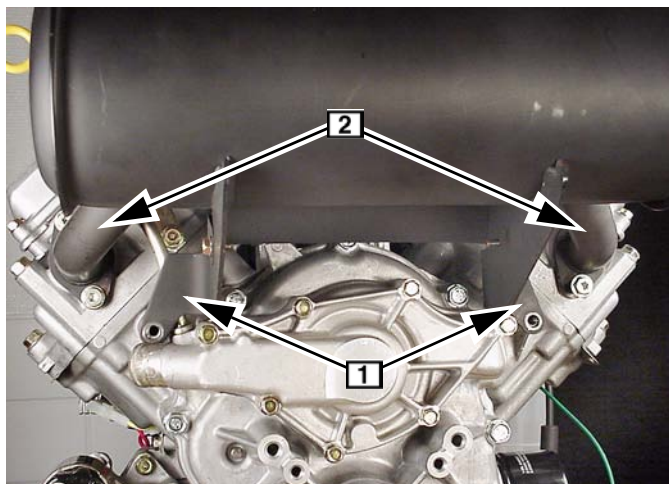

Fig. 34
1. Remove muffler bracket screws **1**, and exhaust manifold screws **2**, Fig. 34.